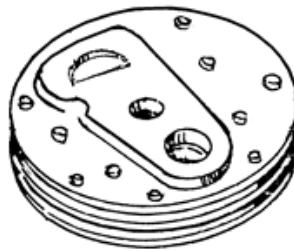

Figure 30
- Remove the cooler from the header by removing the BOLT and special washer (Figure 30).